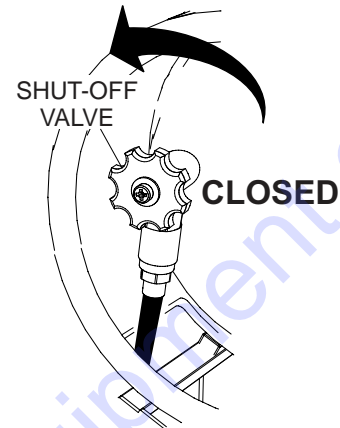

Figure 30. Fuel Shutoff Valve (CLOSED)
6. **CLOSE** the fuel shutoff valve (Figure 30). on the propane tank.